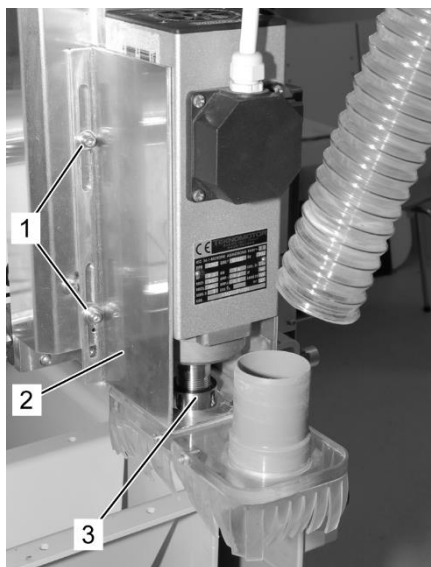
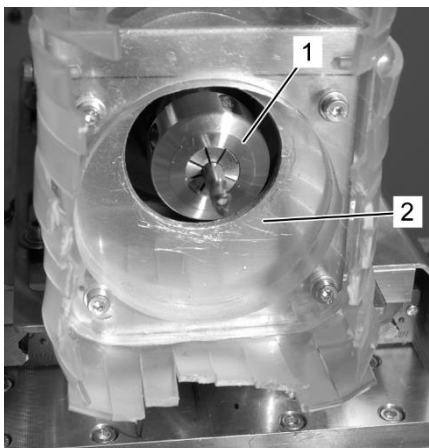

Fig. 31: Tool holder
Fig. 32: Spindle collet
3. Loosen the screw retaining the vacuum protection cover (Fig. 31/2) on both sides (Fig. 31/1) and push the vacuum protection cover upwards to expose the spindle collet from below (Fig. 31/3)
4. Refasten the screws on both sides of the cover (Fig. 31/1).
6. After tool change loosen the screws (Fig. 31/1) on the vacuum protection (Fig. 31/2) on both sides and lower back down to the correct position in line with collet (Fig. 32/1) with new tool installed (Fig. 32/2).